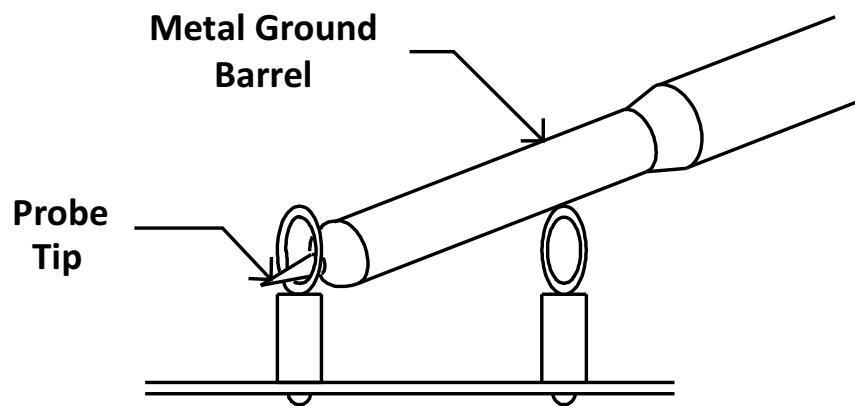

Figure 6-2. Tip and Barrel Measurement
**Oscilloscope:** An oscilloscope is recommended for measuring output noise and ripple. Output ripple must be measured using a tip-and-barrel method or better as shown in Figure 6-2. The scope must be adjusted to 20-MHz bandwidth, AC coupling at 50 mV/division, and must be set to 1-μs/division.